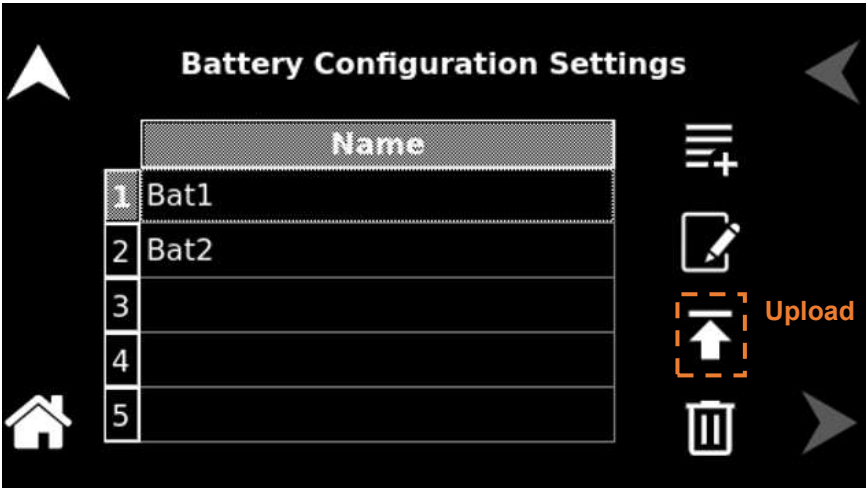

**Figure 12-19. BATSIM Configuration Settings - Upload option**
- Load the defined configuration by clicking the ‘Upload’ option. Refer to Figure 12-19.